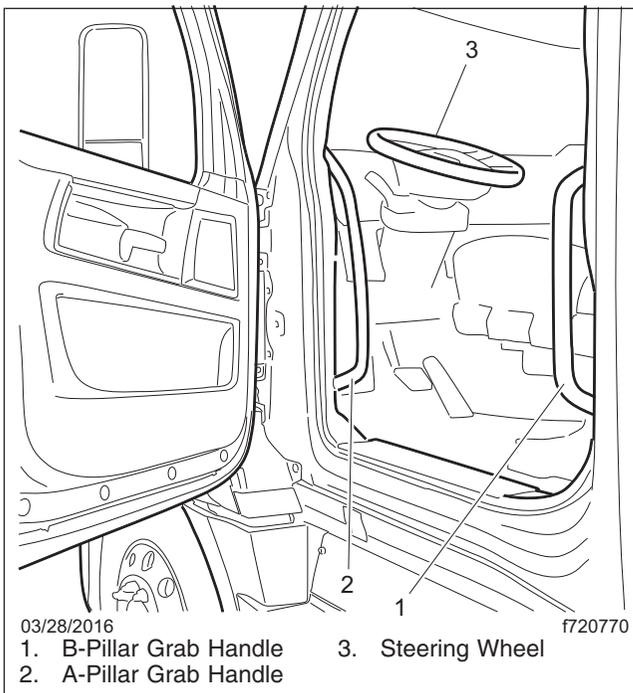

Fig. 2.4, Driver-Side Cab Access
2. Facing the cab, grasp the B-pillar and A-pillar grab handles with your hands. See Fig. 2.4.
1. Grasp the steering wheel with your right hand and the A-pillar grab handle with your left hand, and place your left foot on the top step. See Fig. 2.4.